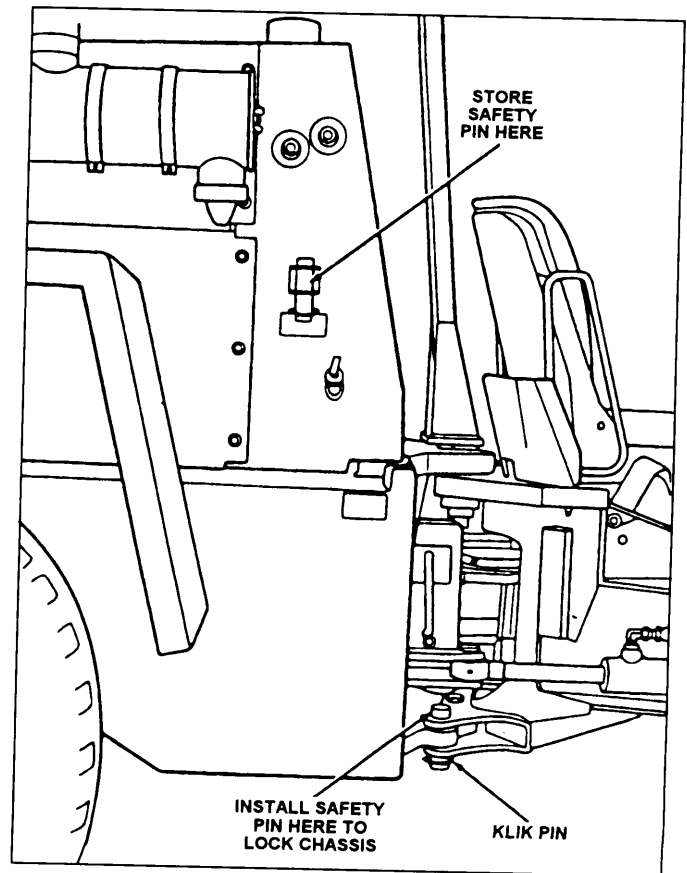

Figure 8-3.—Safety pin location.
The 4K forklift may be driven to project sites under its own power without any special preparation; however, when performing the prestart operational check, you should ensure the safety pin (fig. 8-3) is disengaged before operating. The safety pin prevents the forklift
5. Remove the safety pin (fig. 8-3), if installed. **The safety pin must not be installed when the forklift is being towed.**